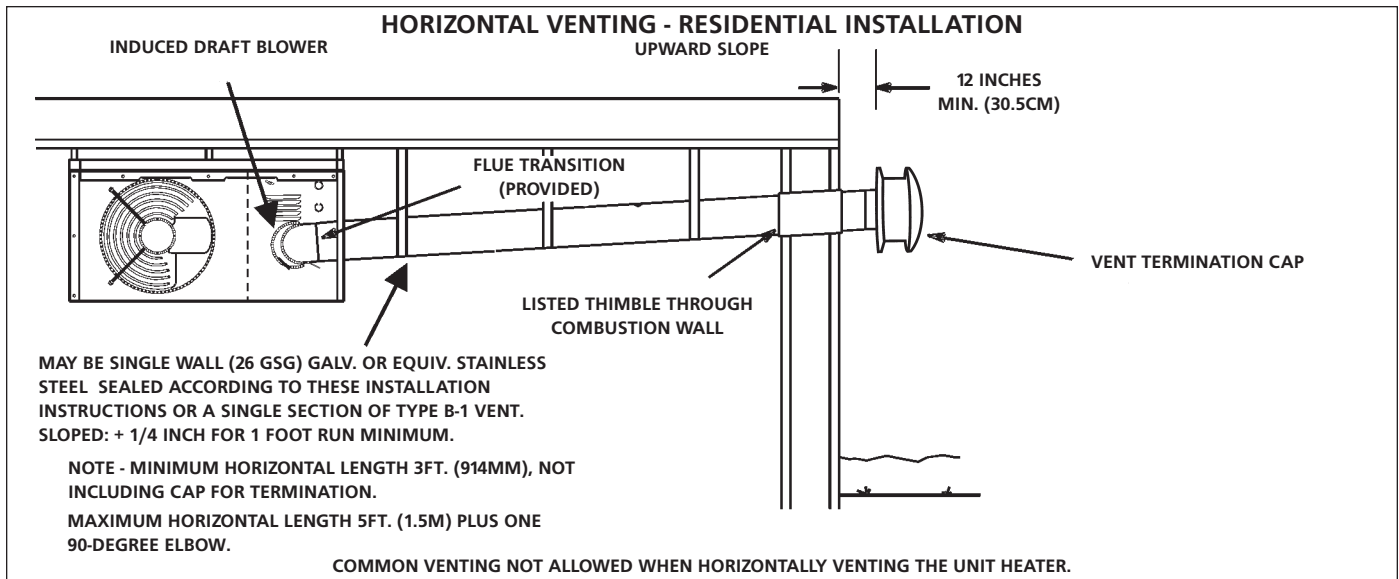

FIGURE 6
- For horizontal residential installations these units are certified as Category I appliances. The vent may be single wall material minimum 25 GSG (0.46mm) galvanized steel or equivalent grade stainless steel. **Venting A - General Recommendations and Requirements** and **C - Horizontal Venting General** and **E - Horizontal Venting - Residential**. Refer to **figure 6**.